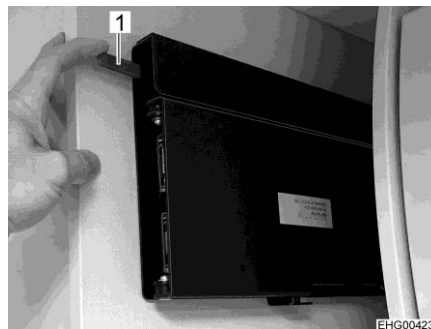
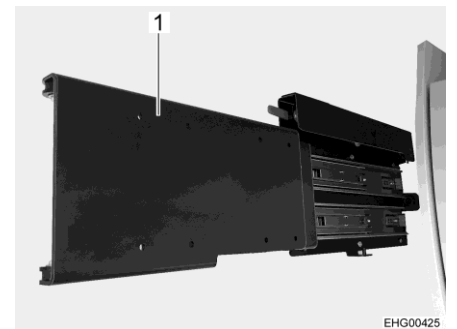

Fig. 92 Unlocking pull-out
Fig. 93 Pull-out (extended)
- Press red lever (Fig. 92,1) downward and pull pull-out (Fig. 93, 1) out. The flat screen faces the living area.